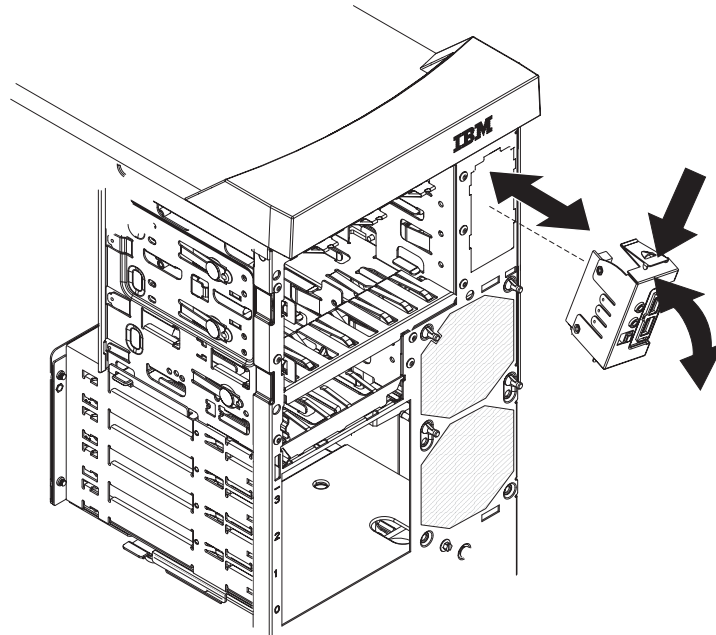

Figure 43. Removing the card/bracket assembly
5. Press the latch on the top of the assembly; the top of the assembly detaches from the chassis (see Figure 43).